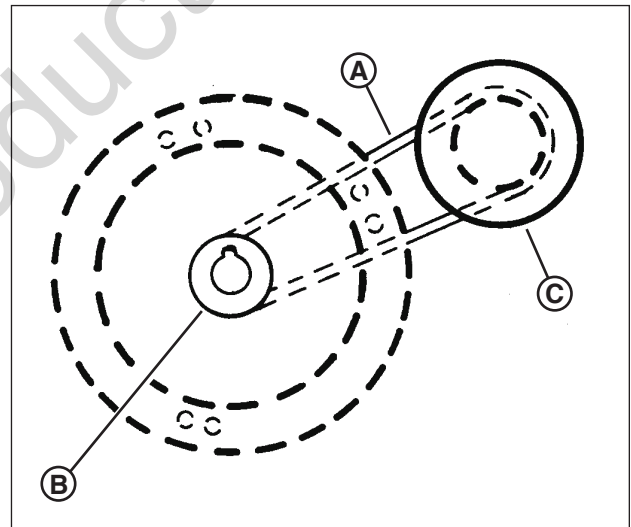

Figure 34: Engine drive belt routing
On self-propelled mowers, the engine belt (**A**, **Figure 34**) transmits power from the engine pulley (**B**) to the drive disc (**C**). The drive disc powers the poly-v belt, which engages the transmission that powers the rear wheels. Should these belts become worn, they could cause slippage, which would impair mower performance.
2. Note the belt routing (**Figure 34**). There is no idler pulley on these models to disconnect.